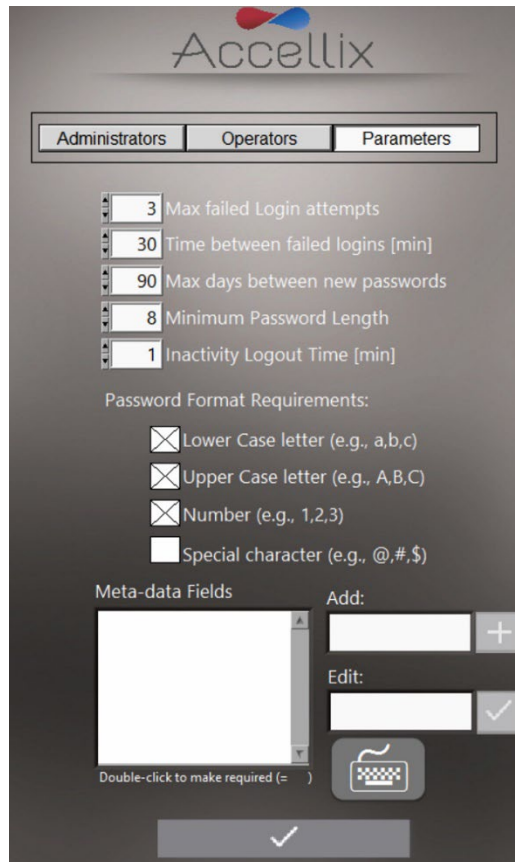

Figure 12: Login Parameter options
1. Tap **Parameters** at the top of the **Personnel** screen. All changeable login parameters (Figure 12) are displayed: